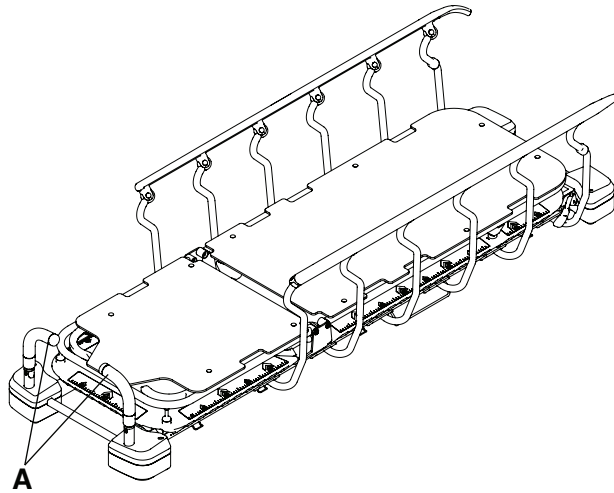

**Figure 7 – Positioning the head end push handles**
2. Pivot the head end push handles (A) to the use position (Figure 7).